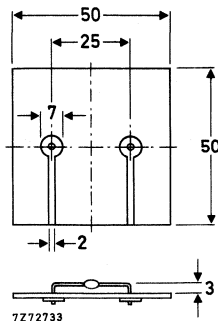

Fig. 2 Mounted on a printed-circuit board.
2. Thermal resistance from junction to ambient; device mounted on an 1.5 mm thick epoxy-glass printed-circuit board; Cu-thickness $\geq 40\text{ }\mu\text{m}$; Fig. 2 (see Thermal Model)